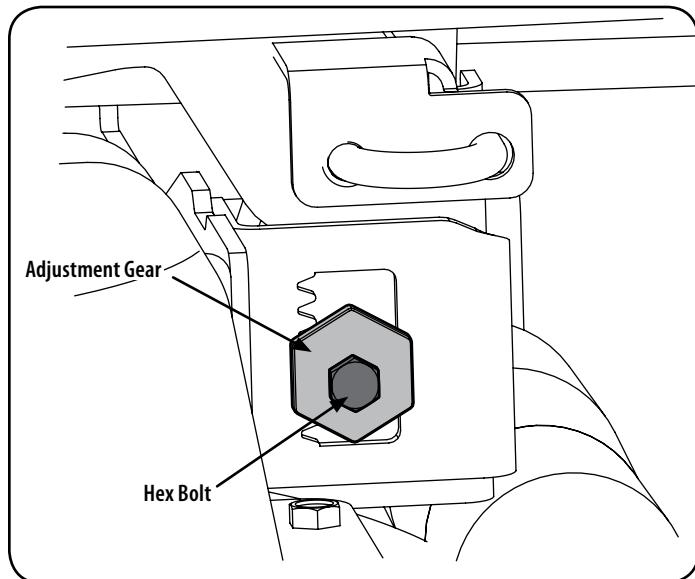

Figure 29
3. Loosen, but do NOT remove, the hex bolt on the rear left deck hanger link. See Figure 29.
4. Using a wrench, raise or lower the left side of the deck by turning the adjustment gear. See Figure 29.